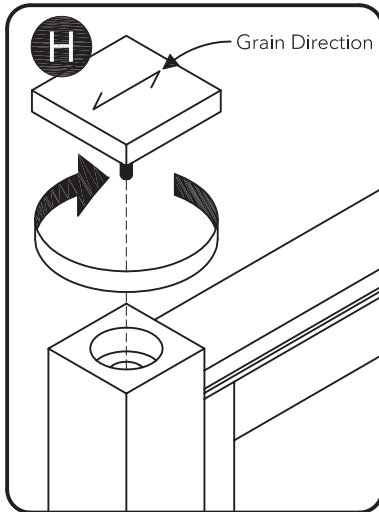

Figure 7
Attach Post Caps (H) to unit. (See Figure 7)